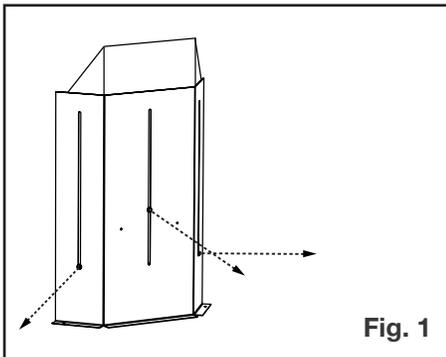

Fig. 1
1. Unscrew the fasteners on the vent shield assembly. DO NOT DISCARD FASTENERS (Fig. 1).